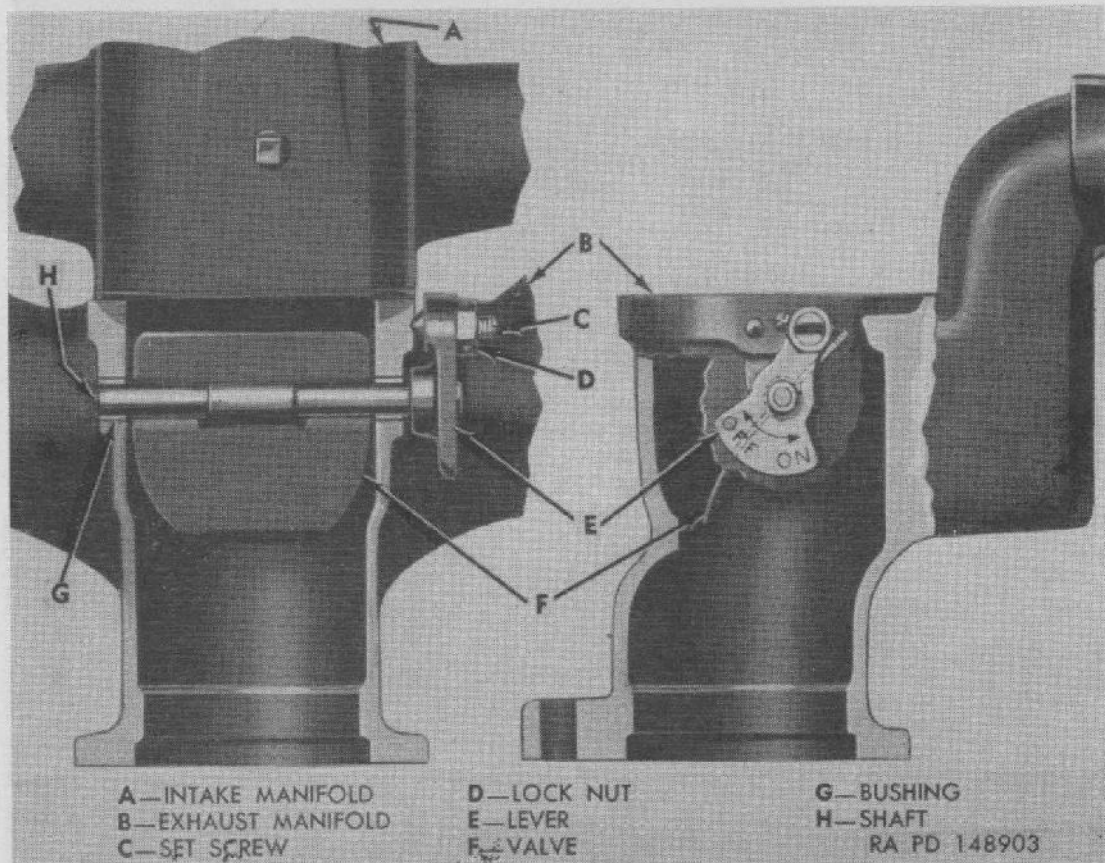

Figure 63. Manifold heat control.
a. PURPOSE. Adjustable valve in exhaust manifold is provided to control temperature at intake manifold center section where incoming fuel mixture is preheated. There are three positions for heat control lever (fig. 63). Correct setting is important to efficient engine operation and fuel economy.